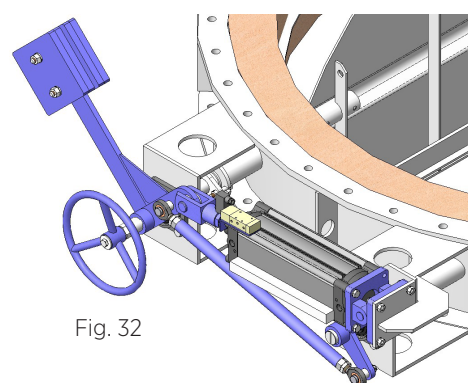

Fig. 32
- Locking devices Emergency manual actuators (fig.32)
Allows manual operation of the damper butterfly in the event of power or air failure (fig 32).